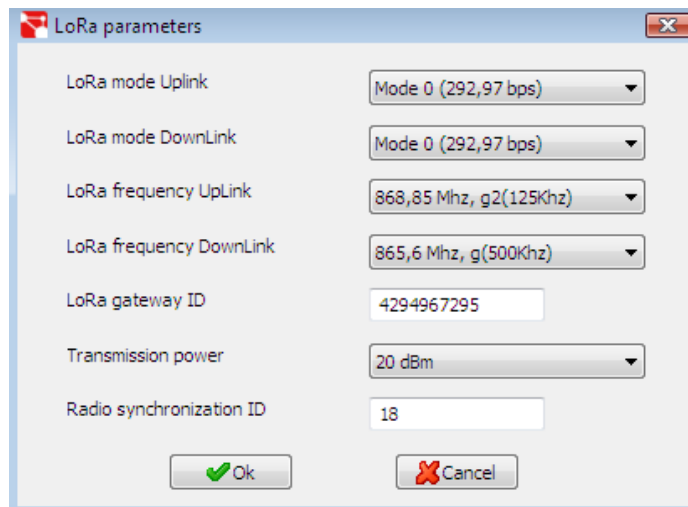

Figure 9: Configuration software: LoRa™. parameters.
6.- Press the  button to change the **LoRa™** communication parameters. The window shown in **Figure 9** will be displayed.